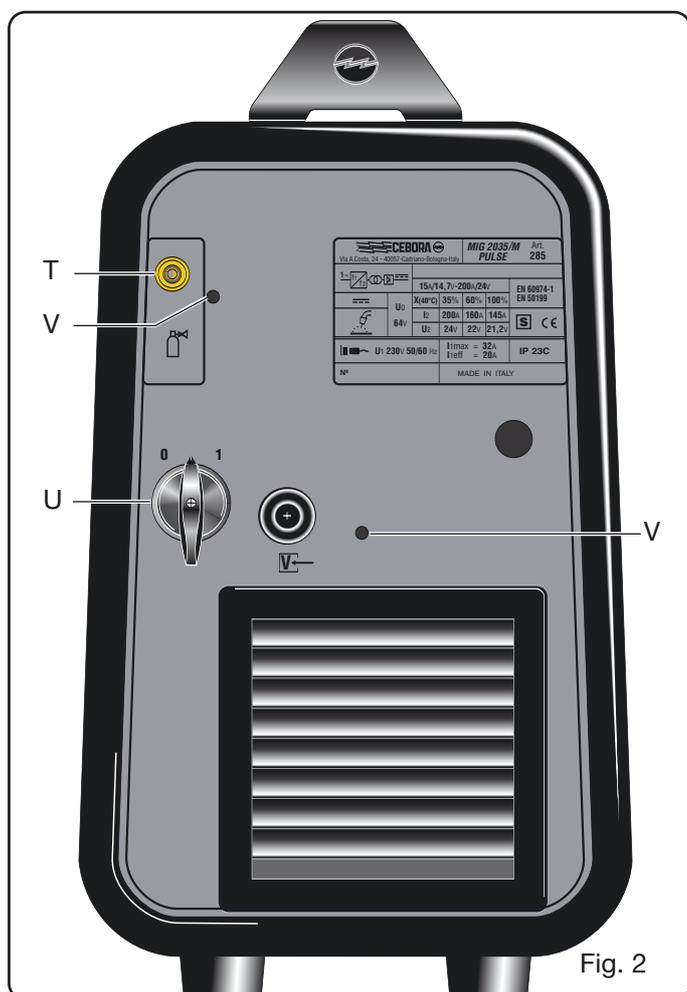

Fig. 2
3.3 COMMANDES SUR LE PANNEAU ARRIERE (Fig.2)